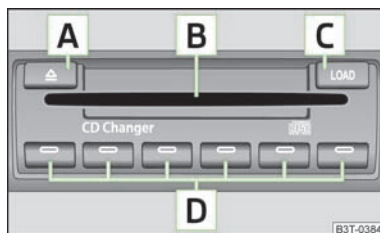

Fig. 133
- Touch the button **C** » Fig. 133 and guide the CD (compact disc) into the CD-case **B**. The CD is automatically loaded onto the lowest free position in the CD changer. The indicator light in the corresponding button **D** stops flashing. ➤